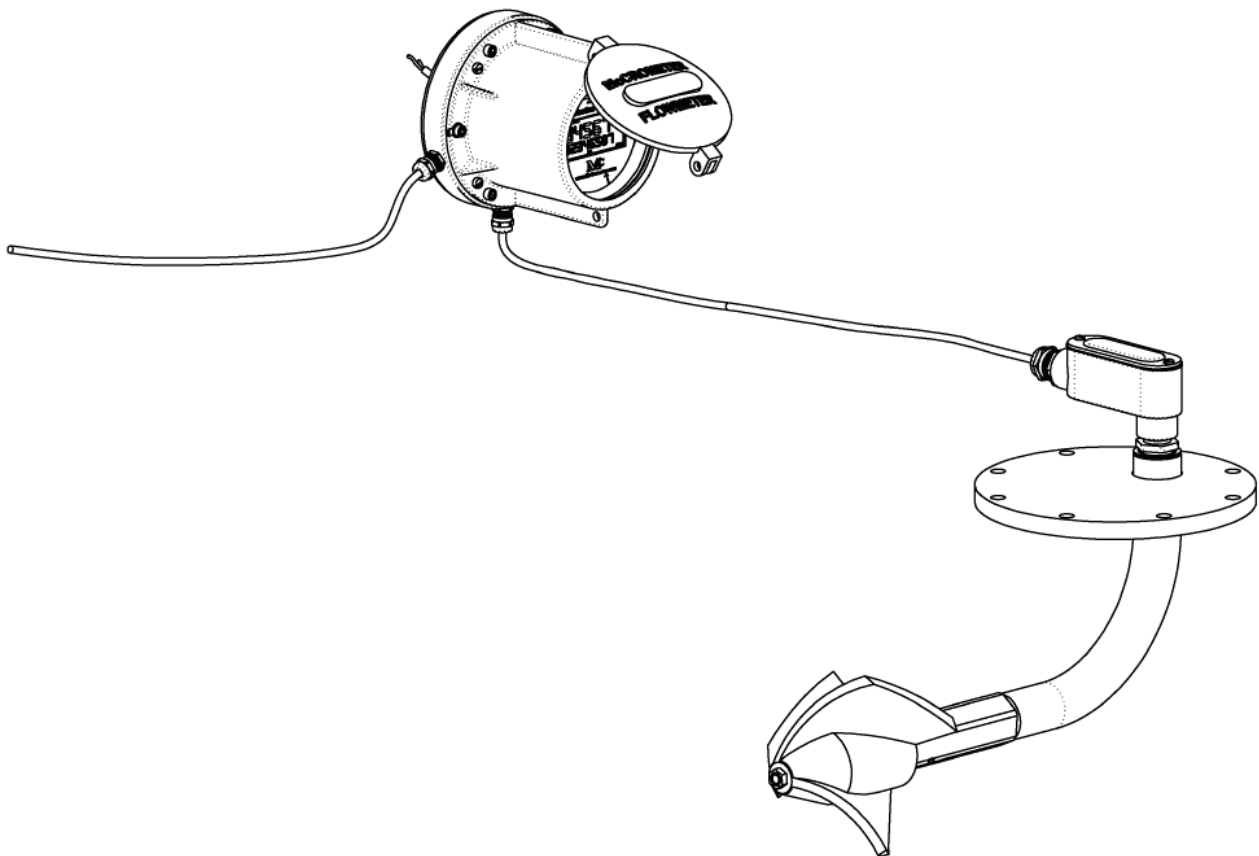

Figure 16 FlowCom Remote Mount
Step 4. Test the conversion by spinning the propeller by hand and insuring the display changes. Install the meter into the line and mount the remote FlowCom in a convenient location. See Figure 16.